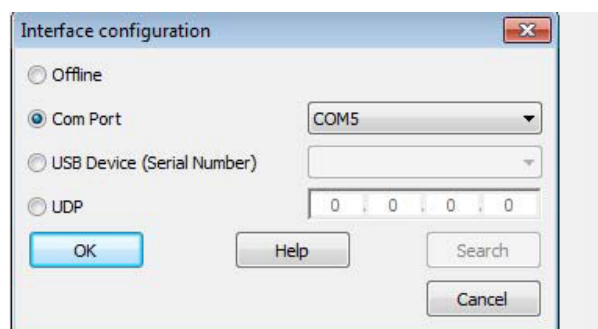

Figure 12.
- These settings are shown in figure 12.